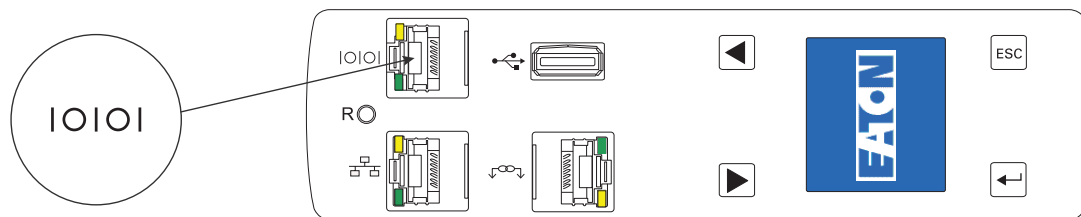

Figure 32. Connecting the EMP to the ePDU RJ-45 Serial Port Connector (OU Models)
3. Locate the Ethernet cable dedicated to the EMP. Connect one end of the cable to the RJ-45 connector on the EMP, then connect the other end of the cable to the serial connector on the ePDU (see Figure 32).